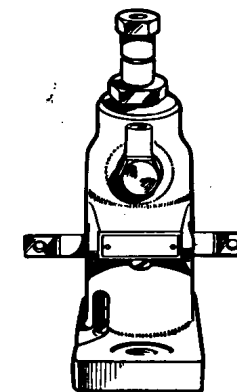

Fig. 8A. Type BPF1Z../03
2. BPF1Z../03. BPF1C../03. BPF1X../03 and BPF1D../03. Horizontal flange with its long axis at right angles to control rod—fig. 8A.